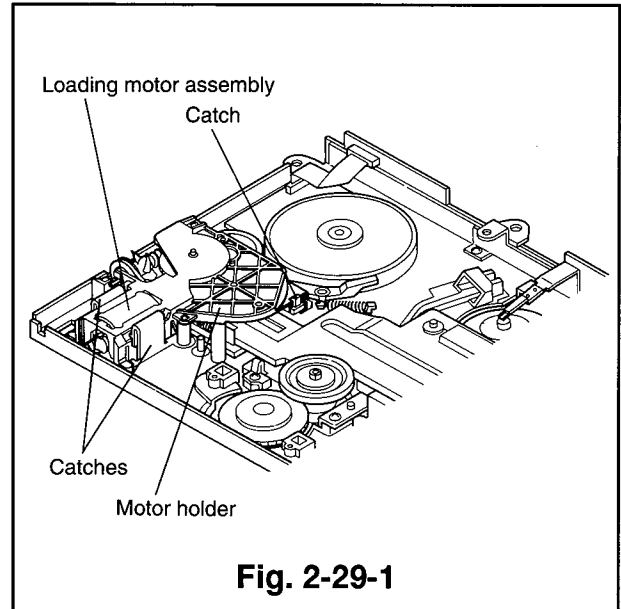
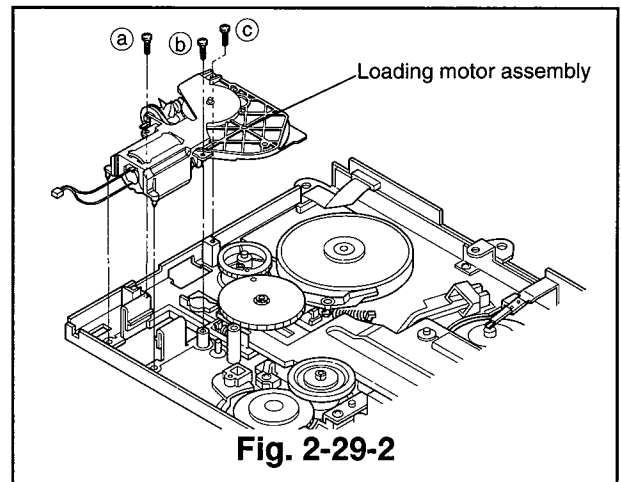

Fig. 2-29-1
Fig. 2-29-2
- ① Unfasten the reel belt. (Refer to Para. 2-28 for the removal method.)
- ② Remove the three screws(Ⓐ, Ⓑ and Ⓒ) as shown in Fig. 2-29-2 and unfasten the three catches to remove the loading motor assembly(which holds the motor holder). (Refer to Fig. 2-29-1)
- ⑦ Install the loading motor assembly(which holds the motor holder) in the position shown in Fig. 2-29-2 and secure it with the three screws(Ⓐ, Ⓑ and Ⓒ).
- ⑧ Install the loading motor belt. (Refer to Para. 2-28 for the installation method.)